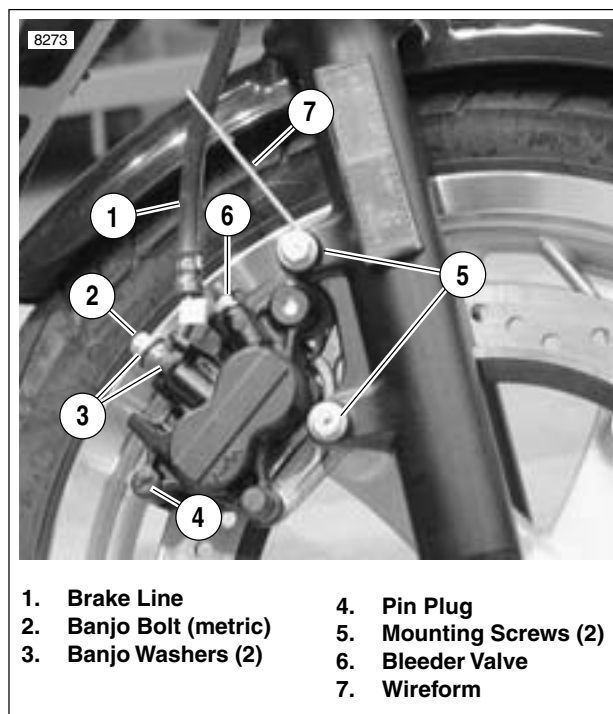
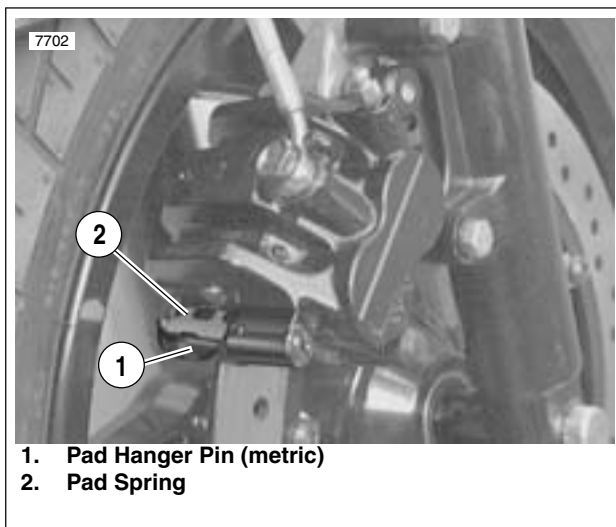

Figure 2-36. Front Brake Caliper
Figure 2-37. Pad Spring
2. See Figure 2-36. Remove banjo bolt (2) (metric) and two banjo washers (3) to disconnect brake line (1) from caliper. Discard banjo washers.
- a. Remove pin plug (4).
- b. See Figure 2-37. Remove pad hanger pin (1) (metric).
4. See Figure 2-36. Detach caliper from mounts.
- a. Remove lower mounting screw (5).
- b. Remove upper mounting screw (5) and brake line wireform (7) while supporting caliper above brake rotor.
2. See Figure 2-36. Apply LOCTITE THREADLOCKER 272 (red) to both caliper mounting screws (5). Install wireform to upper screw and tighten both screws to 18-22 ft-lbs (24-30 Nm).
- a. See Figure 2-37. Install pad spring (2) with opening at top as shown.
- d. See Figure 2-37. Install pad hanger pin (1) (metric). Tighten to 11-15 ft-lbs (15-20 Nm).
- e. See Figure 2-36. Install pin plug (4). Tighten to 1.5-2.1 ft-lbs (2-3 Nm).